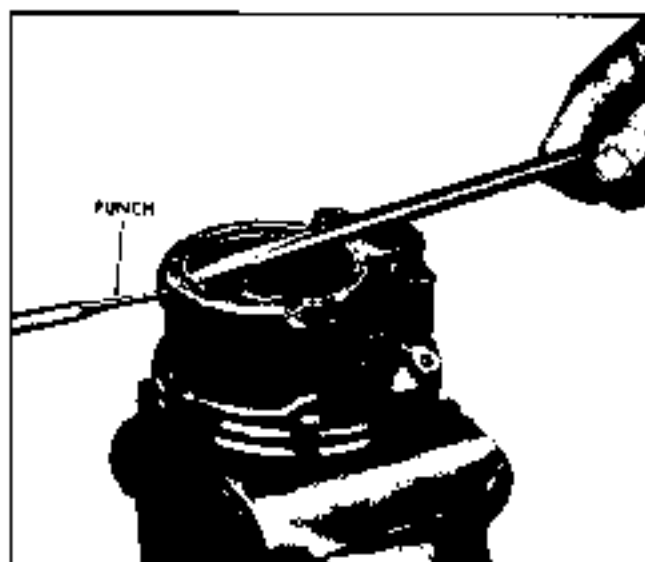

Fig. 9-84 Removing Retaining Ring
5. Remove end plate retaining ring. Push end plate retaining ring out of groove, using a punch through 1/8" diameter hole in pump housing (Fig. 9-84) and remove with screwdriver. End of retaining ring should be next to hole to ease removal.